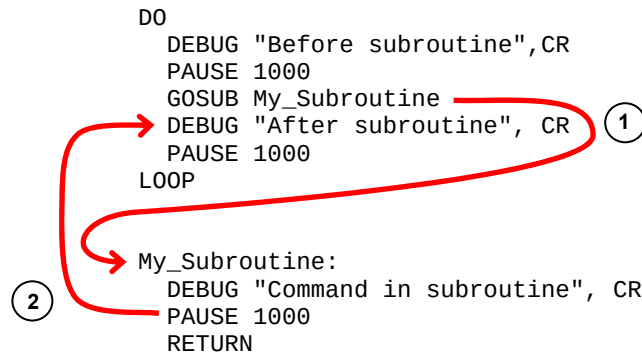

Figure 4-5
Figure 4-5 shows part of a PBASIC program that contains a subroutine call and a subroutine. The subroutine call is the **GOSUB My_Subroutine** command. The actual subroutine is everything from the **My_Subroutine:** label through the **RETURN** command. Here's how it works. When the program gets to the **GOSUB My_Subroutine** command, it looks for the **My_Subroutine:** label. As shown by arrow (1), the program jumps to the **My_Subroutine:** label and starts executing commands. The program keeps going down line by line from the label, so you'll see the message "Command in subroutine" in your Debug Terminal. **PAUSE 1000** causes a one second pause. Then, when the program gets to the **RETURN** command, arrow (2) shows how it jumps back to the command immediately after the **GOSUB** command. In this case, it's a **DEBUG** command that displays the message "After subroutine".